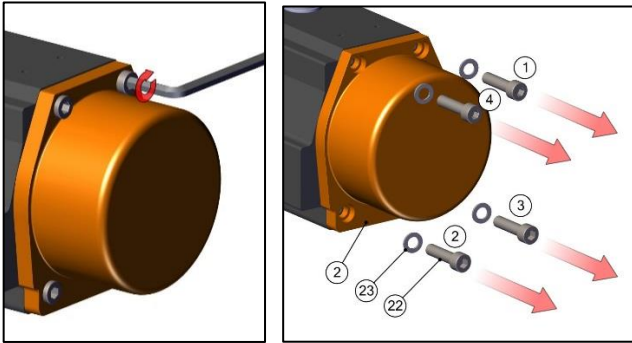

Fig No.12
- Unscrew the End Cap bolts (22) with the help of Allen key as per sequence shown in Fig No.12 until the end is free from springs force.
- Remove the End Cap bolts (22) as per the sequence shown in fig no.12 until the bolt is completely unscrewed & end cap is completely free.